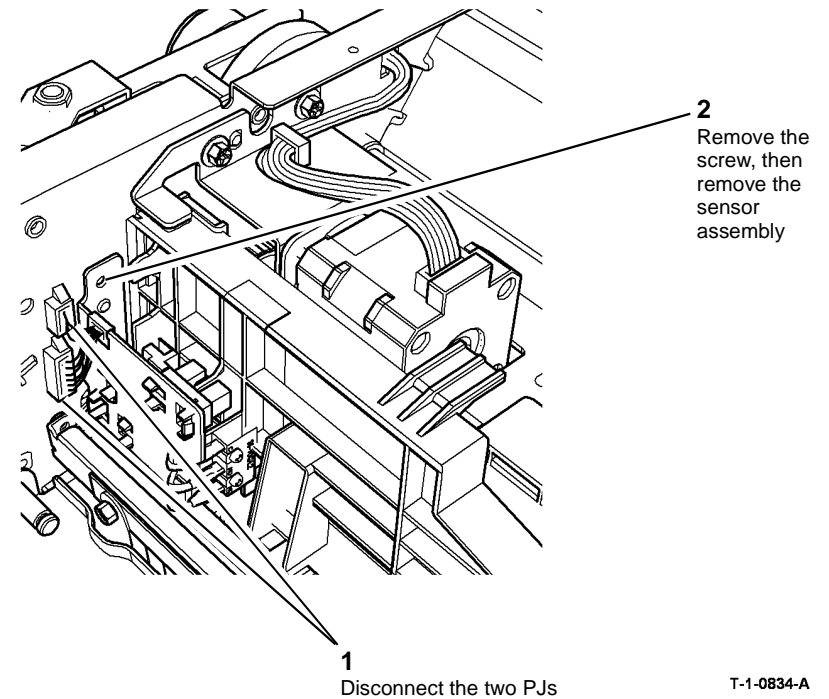

Figure 1 Sensor assembly
2. Remove the sensor assembly, Figure 1.